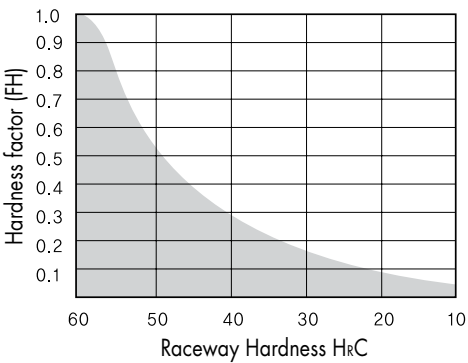

Fig 8. Hardness Factor (FH)
The hardness of the shaft should be 60 RC +/- 2, refer to figure 8 for shaft hardness factors.
- FH : Hardness factor (figure 8)